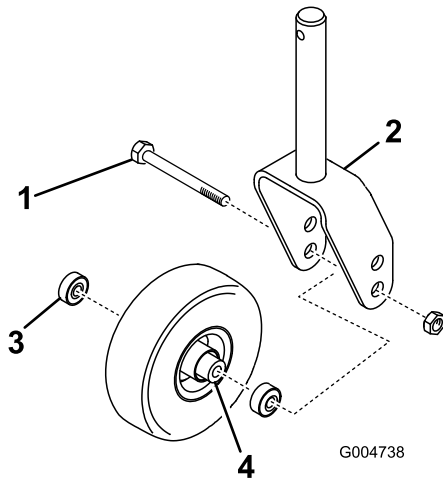

Figure 23
1. Remove the locknut from the bolt holding the caster wheel assembly between the caster fork (Figure 23).
3. Remove the bearing from the wheel hub and allow the bearing spacer to fall out (Figure 23).